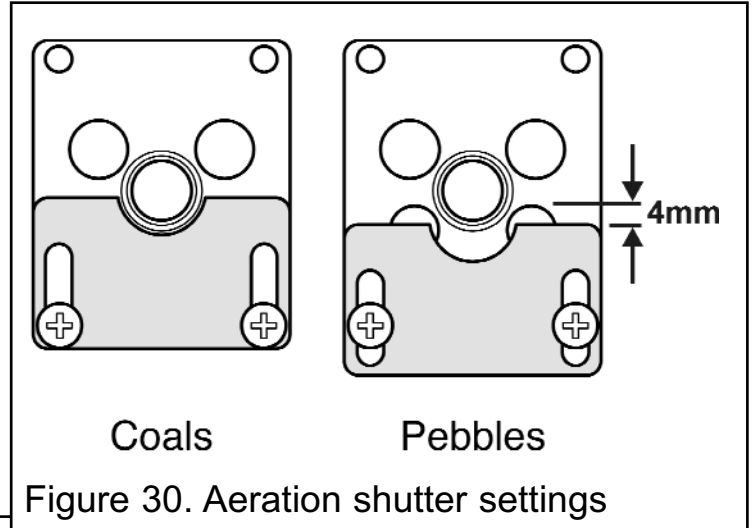

Figure 30. Aeration shutter settings
1. The aeration shutter is factory set for use with a 'pebble' ceramic fuel effect. It is important to ensure that the aeration setting is correct for the ceramic fuel effect used. Check the aeration shutter setting even if fitting the 'pebble' fuel effect (See figure 30).
2. To adjust the aeration setting, loosen the two aeration shutter screws, slide the aeration shutter to the position shown in figure 30 and tighten the fixing screws.